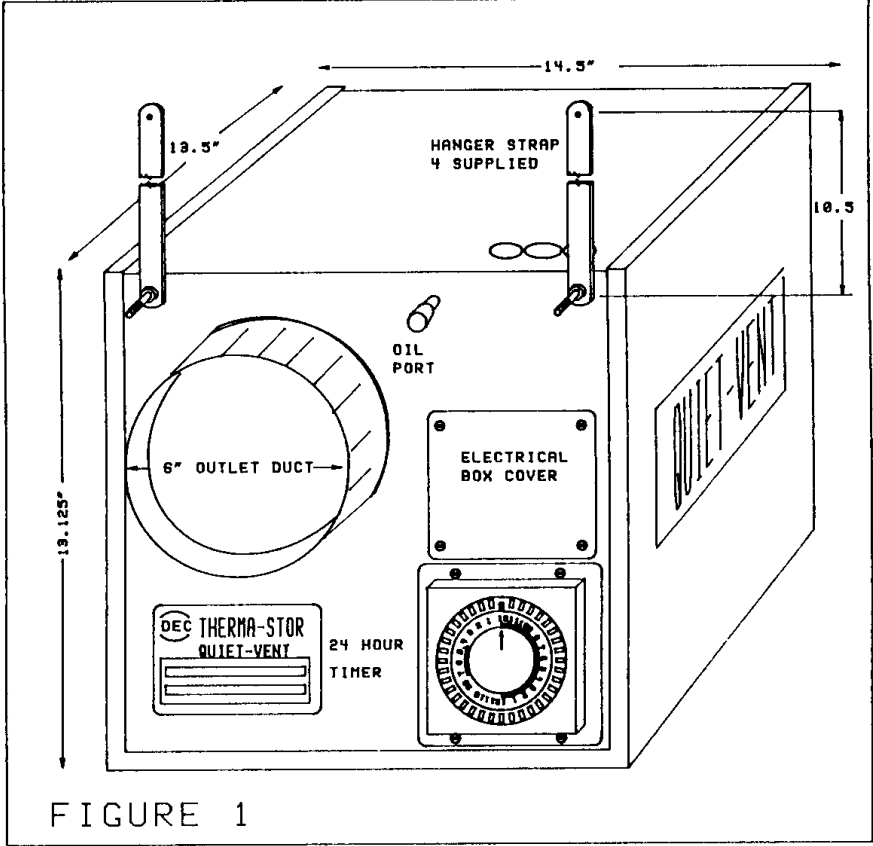

FIGURE 1
The QV has four vibration absorbing straps for hanging from joists, rafters, or trusses (See Fig. 1 & 3) and use (4) 1/4" diameter lag bolts or the equivalent. Locate the unit to minimize the ducting from the baths and kitchen to the QV inlets and from the QV outlet to the outside. Because the oiling system depends on gravity, the unit must be oriented with the hanger bolts on the top.
Although the motor is factory lubricated for many years of normal operation, additional oiling will extend motor life. To facilitate motor oiling, tubing from the motor extends outside the QV cabinet (See Fig. 1). Five to ten drops of SAE 20 Non-Detergent oil is recommended every six months.